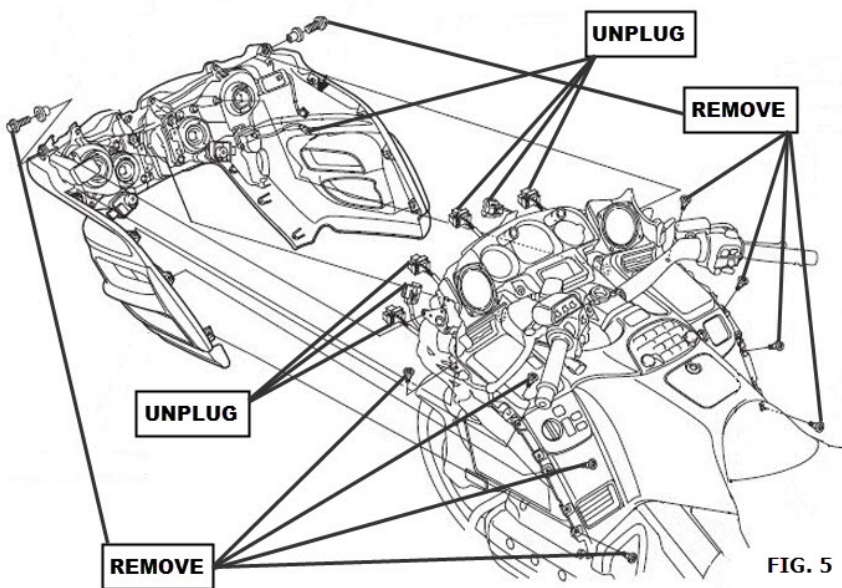

FIG. 5
11. USING A 5 MM WRENCH REMOVE THE BUTTON HEAD SCREWS HOLDING THE BACK OF THE FAIRING TO THE BIKE. USING A 10MM WRENCH REMOVE THE BOLTS ON EACH SIDE OF THE FAIRING NEXT TO THE MIRRORS. ALSO REMOVE THE WASHERS. (SEE FIG. 5)